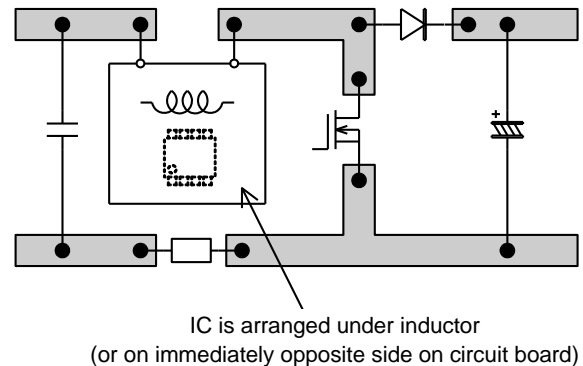

Fig.33 Example of inadvisable arrangement (1)
- IC is arranged under inductor or other main circuit parts, or immediately behind main circuit parts on double sided circuit board (Fig. 33)